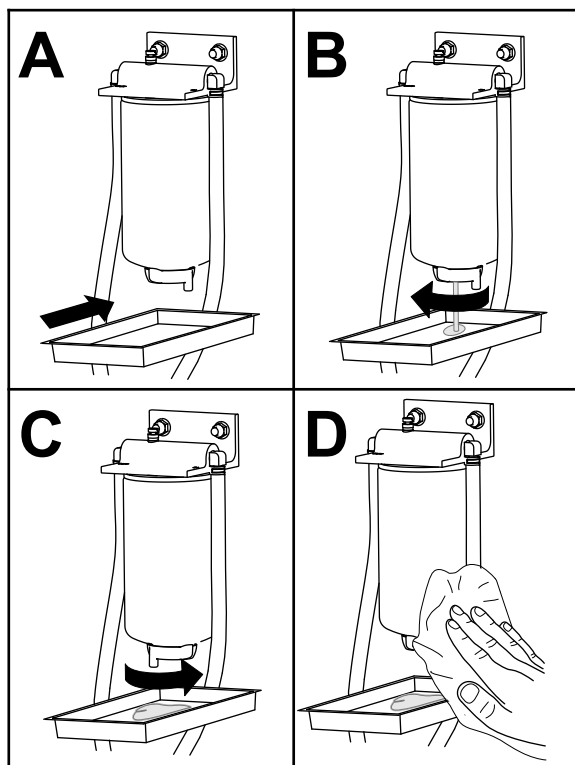

Figure 53
1. Drain water from the fuel/water separator as shown in Figure 53.